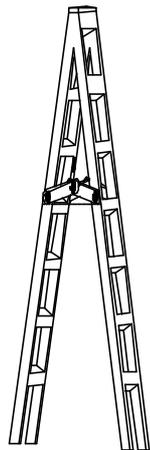

Figure 3 Stretching the A-shaped ladder
- It is recommended that the slope of the ladder be 75° . The slope can be measured with angle square or with arm, as shown in the Figure 3. When using the ladder, the wider end of the ladder should be placed against the ground or protective measures should be taken at the bottom of the ladder for the purpose of skid resistance. Place the ladder against a stable ground and do not place the ladder against those objects that are easy to lean and slide themselves such as paper box, stone and so on.